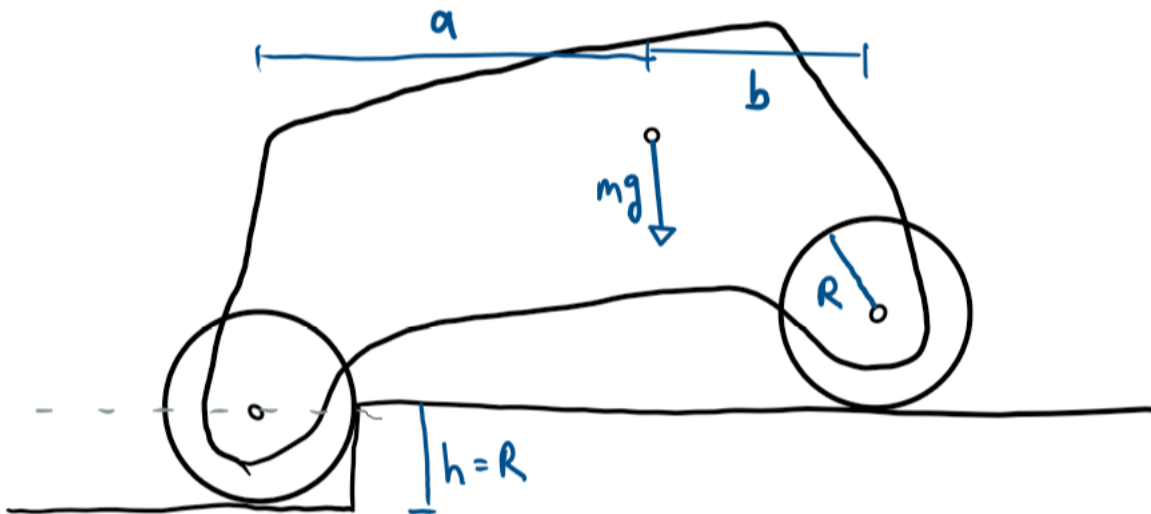

Figure 2: BaseBot beginning to lift the rear wheel.
2. Following on from the last problem, you now want to determine if the robot can get the rear wheels up the speed bump. Figure 2 shows the geometry of the system. To simplify the problem, the height of the speed bump for this problem is exactly the radius of the wheels and the location of the CoG is in horizontal coordinates (to save you from having to take too many tangents).